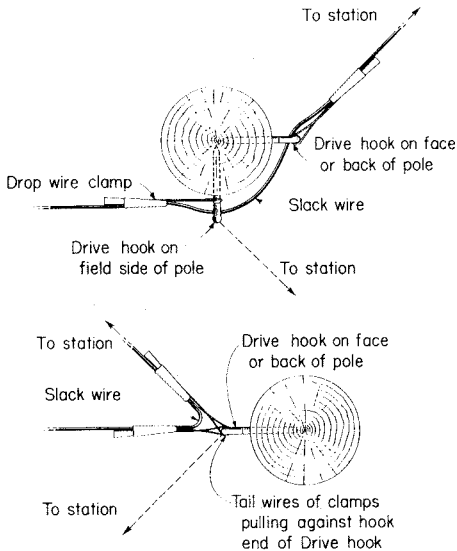

Fig. 8 — Distributing Wires from Pole Other Than Terminal Pole
3.09 Distribute drop wires as illustrated in Fig. 8.